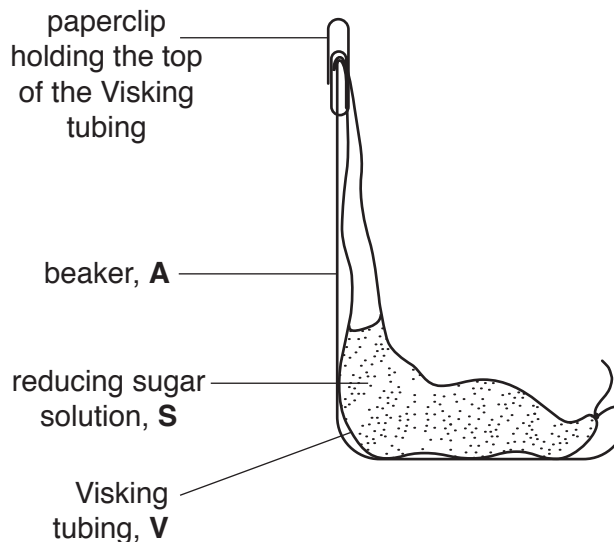

Fig. 1.1
Fig. 1.1 shows the apparatus you will set up for this investigation before the water has been added.
- (i) Draw on Fig. 1.1 the level of water:
You are required to set up the apparatus as in Fig. 1.1, add the water and then remove a sample of this water (**U**) after 15 minutes.
6. Put the Visking tubing into the empty beaker, labelled **A**, as shown in Fig. 1.1.